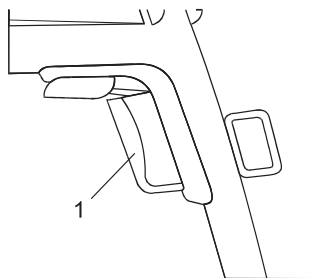

Fig. 2
1. To start drill, gently squeeze the trigger switch (1) (see Fig. 2).